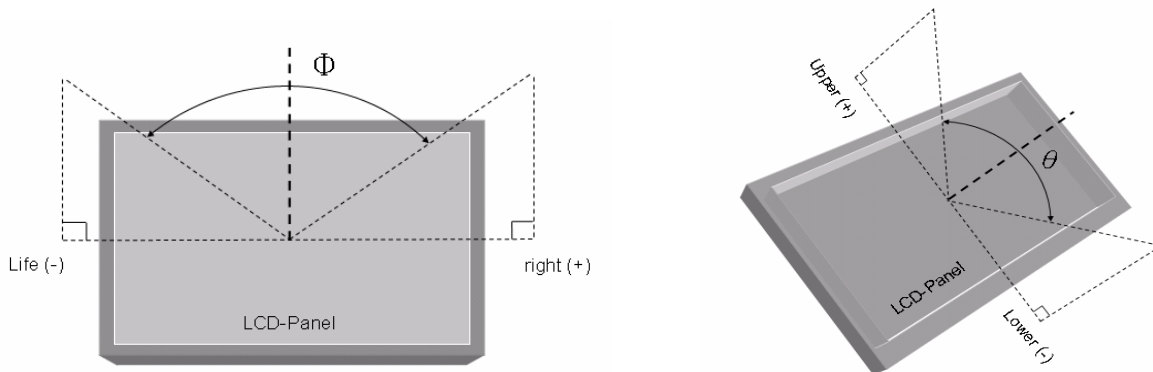

Fig 8-2 Definition of Viewing Angle
- *4) Definition of Viewing Angle(θ, ψ), refer to Fig8-2 as below :